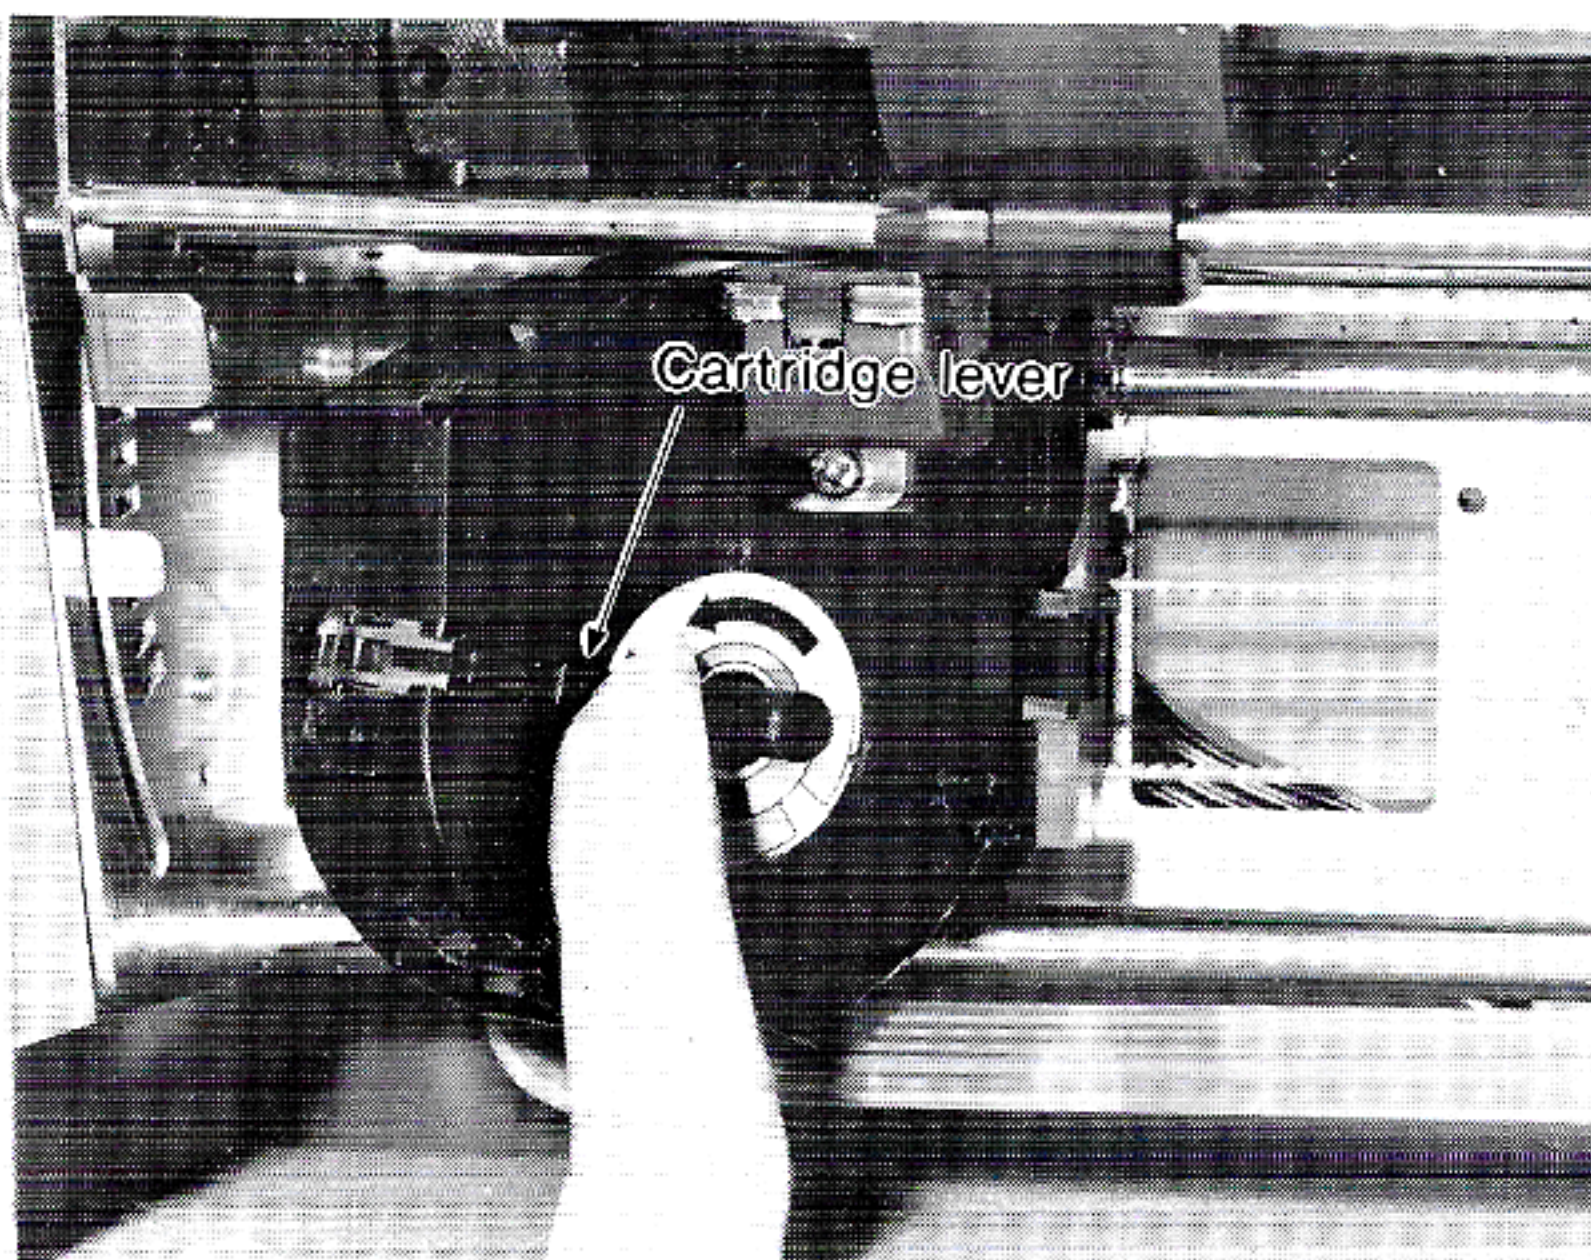

Figure 7
h) If a given ink color is not going to be used, the transfer of ink from that cartridge to the ribbon can be turned off by pushing the respective cartridge lever (figure 7) toward the outside of the cassette. Pushing in the cartridge lever starts the transfer of ink again.